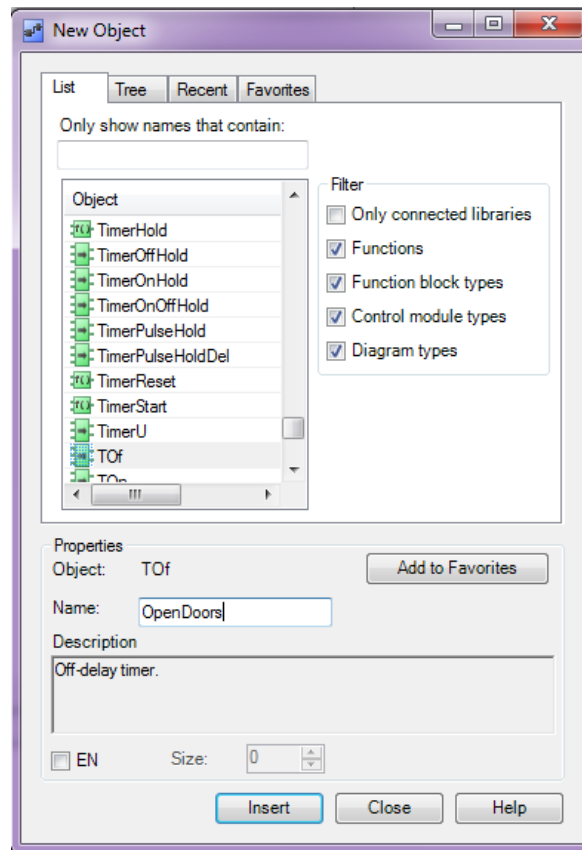

Figure 23. New Object dialog
4. After selecting TOF, enter **OpenDoors** in the Name field as shown in Figure 23.